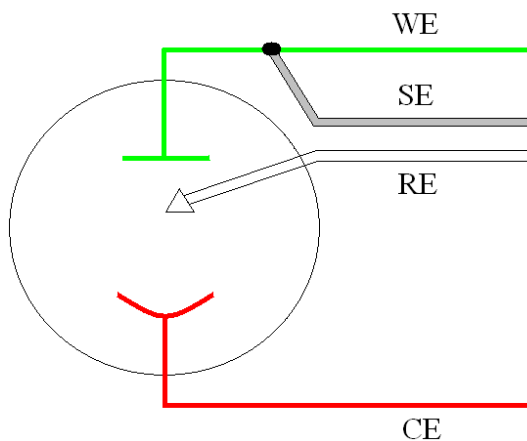

Figure 7. Three-Electrode Connection
b) General aqueous electrochemistry, corrosion experiments, and most EIS experiments are connected using a three-terminal connection (Figure 7). The voltage at the working-sense is controlled relative to a stable reference electrode positioned in close proximity to the working electrode.